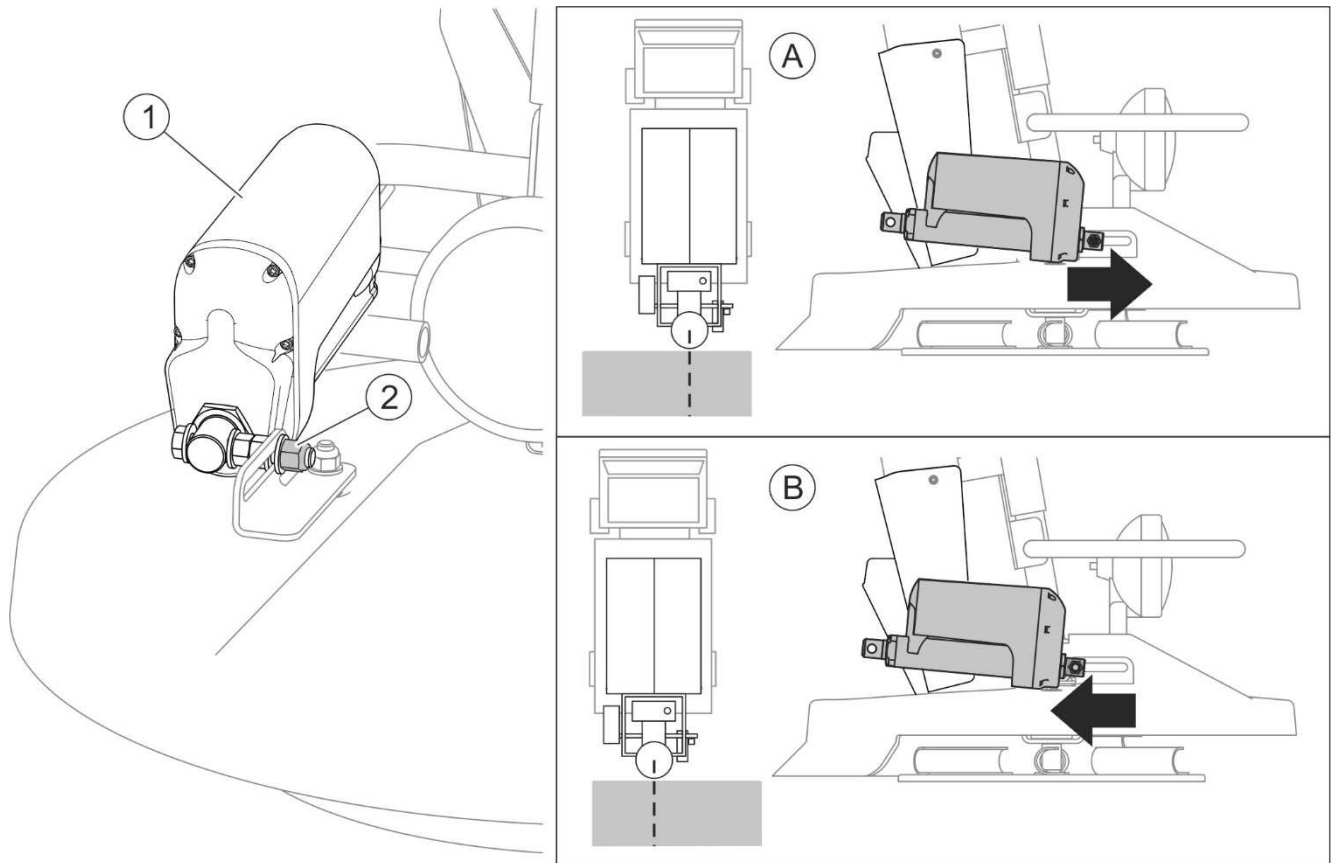

FIGURE 5.13 Adjustment of spreading mechanism
(1) - spreading direction adjusting cylinder; (2) - nut; (A) - spreading zone excessively shifted to the left, (B) - spreading zone excessively shifted to the right
In order to adjust the spreading mechanism, set symmetric 4 meter-wide spreading zone on the control panel. Activate spreading and drive a short distance at a constant speed. Stop the vehicle and check effect of spreading. If spreading to the right side and to the left side is not the same, adjust spreading direction adjusting cylinder (1) (FIGURE 5.13) as follows:
- Loosen nut (2).
- Move cylinder (1) forwards if spreading zone is excessively shifted to the left (A).
- Move cylinder (1) backwards if spreading zone is excessively shifted to the right (B).
- Tighten nut (2), conduct test spreading, if necessary, repeat the adjustment.